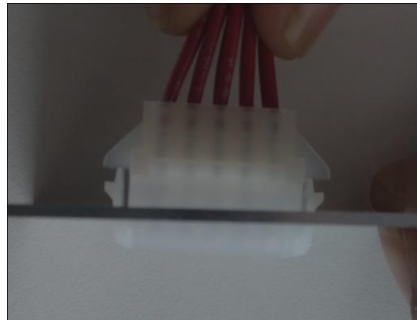

Fig14a
2. Hold the Plug assy and assemble in to the Panel, Refer the below fig.14 and Fig.14a